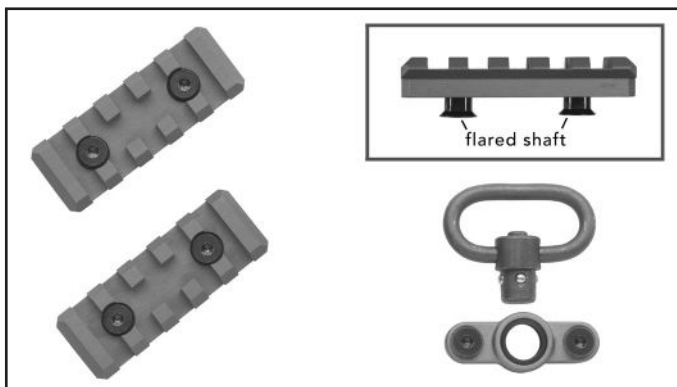
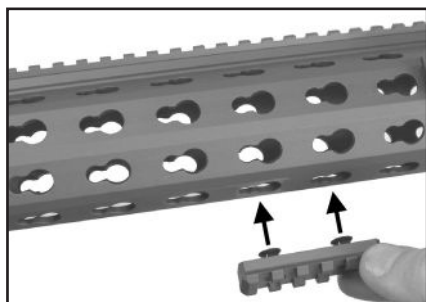

Fig. 75 – Rails segments and quick detachable sling hardware components
Fig. 76 – Position rail segment interface
1. Position the rail segment or component (Fig. 75) in the desired location on the slotted keyhole interface of the MRS and push in and slide to the rear, allowing the flared shaped shaft of the captive hex (Allen) screws to hold the segment or component in position (Fig. 76, 77, 78).